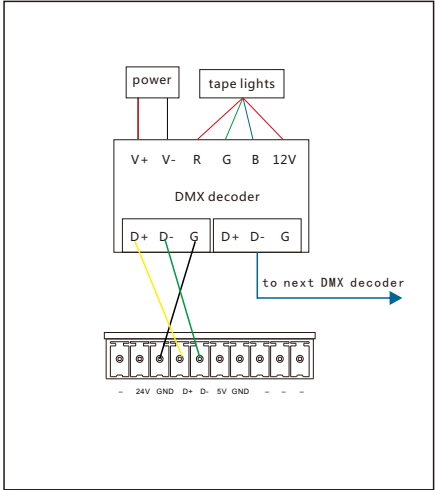

Figure 7.DMX512 intelligent module wiring
Product Wiring: See Figure 7 and 8
2. DMX512 interface : 24V and 5V are the output voltages (see Figure 7).